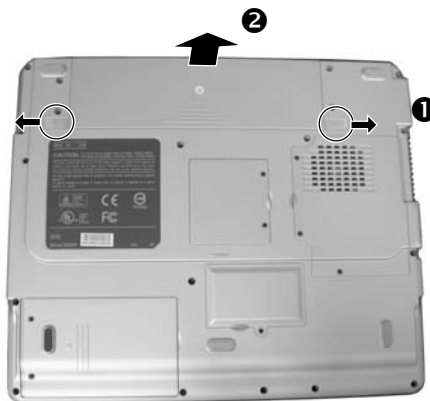

Figure 2-1 Remove the battery pack
2. Pull the battery pack out of the compartment (2) while sliding and holding the release lever outwards to the “unlock” (☐) position (1). (Figure 2-1)